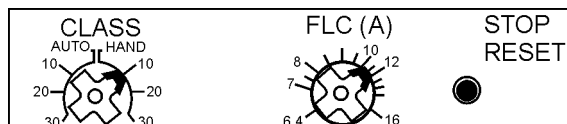

Figure 14. Electronic Overload Module (Old Style)
There are two dials on the Electronic Overload Module (Figure 14) that require setting before the pump can be used with the control box.
1. Set the FLC (A) dial pointer (Figure 14) to 10.5. This setting represents the running amps of the pump. This information can be located on the pump's nameplate.
1. Depending on the application, Set the **CLASS** dial pointer (Figure 14) to either **HAND** (manual) or **AUTO**.